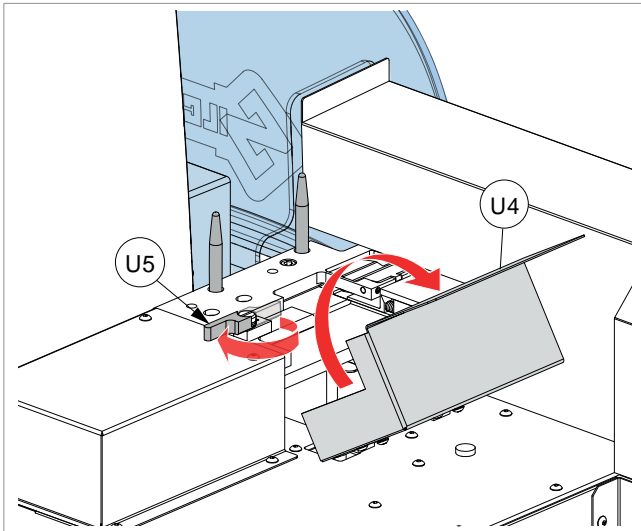

Fig. 35
- 1) Rotate the shield (U4) (Fig. 35).
- 2) Open the lever (U5) completely (Fig. 35).